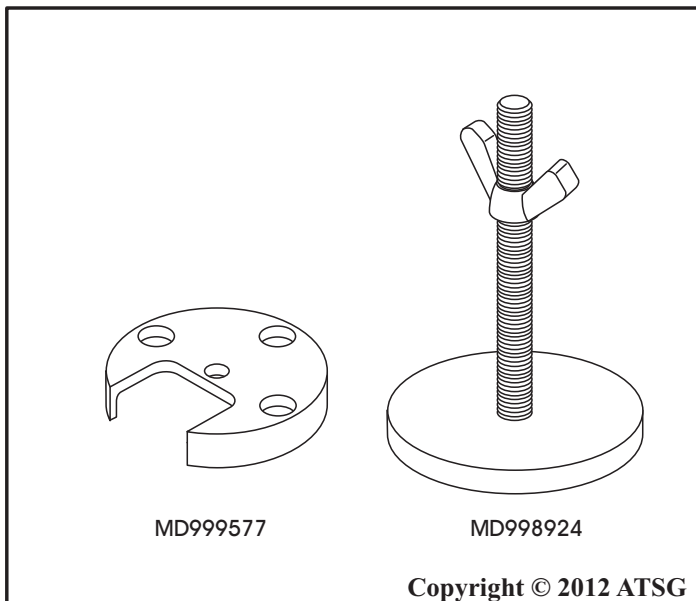

Figure 91
77. Using the special tools shown in Figure 91, or a suitable substitute, compress low/reverse clutch piston return spring.